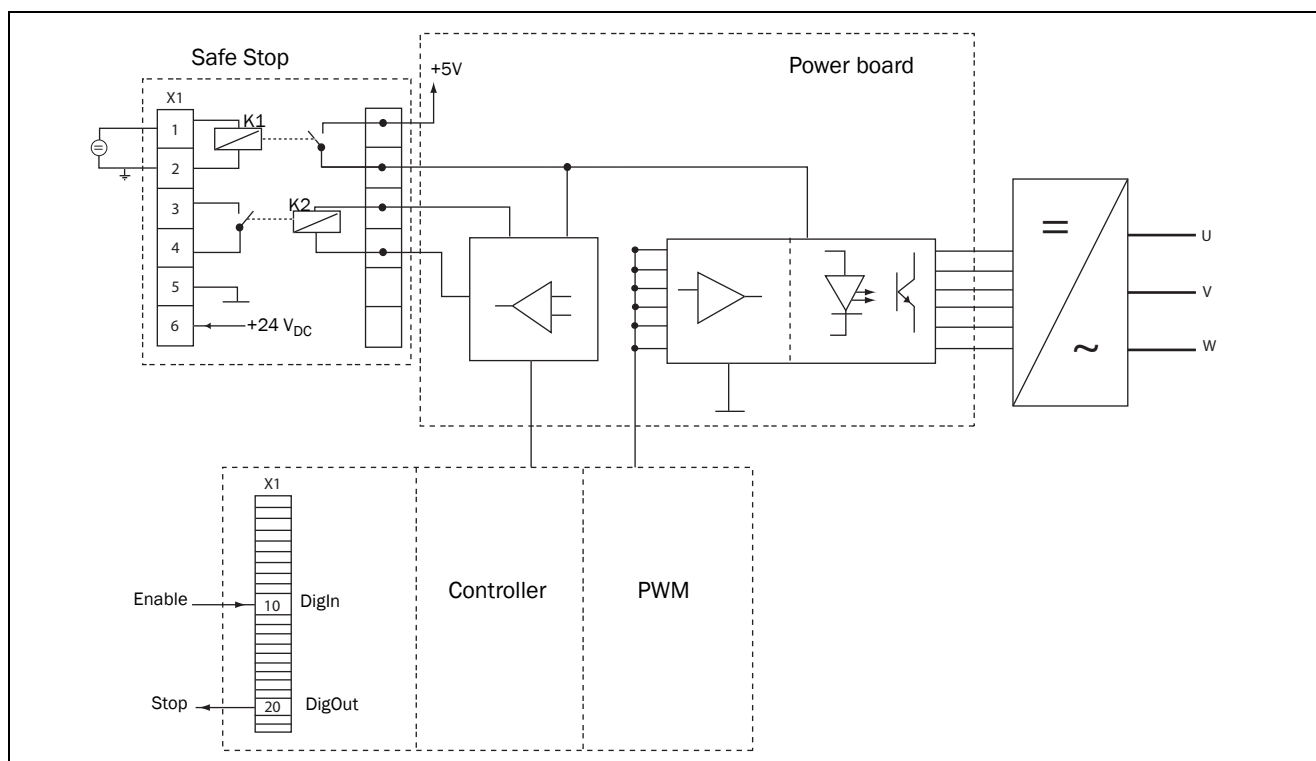

Fig. 126
- "Inhibit" input, terminals 1 (DC+) and 2 (DC-) on the Safe Stop option board should be made active by connecting 24 V_{DC} to secure the supply voltage for the driver circuits of the power conductors via safety relay K1. See also Fig. 126.
- High signal on the digital input, e.g. terminal 9 in Fig. 126, which is set to "Enable". For setting the digital input please refer to section 11.5.2, page 123.
To monitor the "Enable" function, the selection "RUN" on a digital output can be used. For setting a digital output, e.g. terminal 20 in the example Fig. 126, please refer to section 11.5.4, page 128 [540].